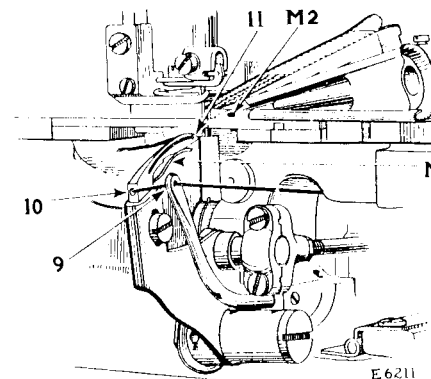
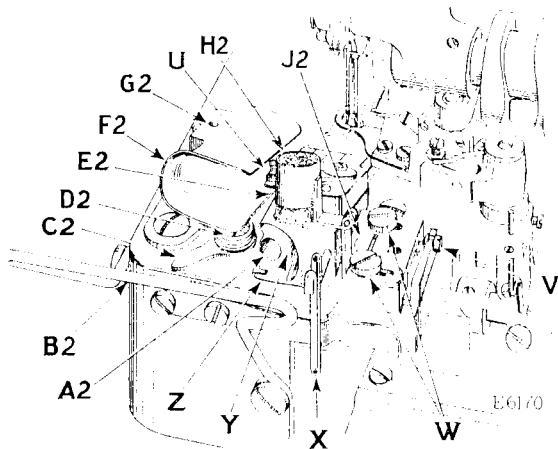

FIG. 5. THREADING THE LOOPER
FIG. 7. ADJUSTMENTS ON THE MACHINE.
When sewing patent leather sweats, the use of the oil cup (H2, Fig. 7), at the beginning of the folder, is recommended. This oil cup contains a wick which should be kept saturated with stainless lubricant when in use. The oil cup should be turned on its hinge so that the wick will come into contact with the top of the sweat leather, thus lubricating the edge of the leather as it passes under the wick.
Pass the cambric or backing through wire guide (X, Fig. 7) and through folder (Y, Fig. 7) and adjust the folder, according to
the width of the cambric being used, by loosening the screw (J2, Fig. 7) and sliding the lower half of the folder (Z, Fig. 7) in or out, as may be required, then securely tighten the screw (J2). Draw the cambric back under the presser foot.
The position of the folder (Y, Fig. 7) in relation to the needles is determined by the length of the bight on the leather, the kind of reed, cord or wire to be used and whether it is desired to have the reed, cord or wire tight or loose in the cambric. The folder can be adjusted to or from the needles by loosening the two screws (W, Fig. 7) and moving the folder to the required position by means of the screw (V, Fig. 7), after which securely tighten the two screws (W).
Insert the reed, cord or wire to be used in the hole (A2, Fig. 7) and push it through until it is under the presser foot.
Pass the sweat leather over the wire support (B2, Fig. 7), into the sweat guide (E2, Fig. 7) and adjust the sweat follower (F2, Fig. 7) by loosening the screw (D2, Fig. 7) and turning the lever (C2, Fig. 7) for more or less pressure against the leather. The sweat follower (F2) may be turned on the axis (G2, Fig. 7)
The position of the sweat leather on the cambric or backing is controlled by moving the lever (U, Fig. 7), up or down, as may be required.
When the machine is to be used for sewing sweat leathers with a cord edge only, pass the cord through the hole in the guide which is close to the needles as shown at (M2 in Fig. 5, page 5). The required tension on this cord is obtained by winding the cord once or twice around the wire (X, Fig. 7, page 8).
The purpose of the looper loop retainer wire (N2, Fig. 5, page 5) underneath the looper is to produce just enough tension on the loops of the needle threads to keep them from snapping under the points of the needles. Care must be taken to see that the loop retainer wire (N2) does not carry the needle thread loops too far back of the left or silk needle, about $\frac{1}{16}$ inch is sufficient.